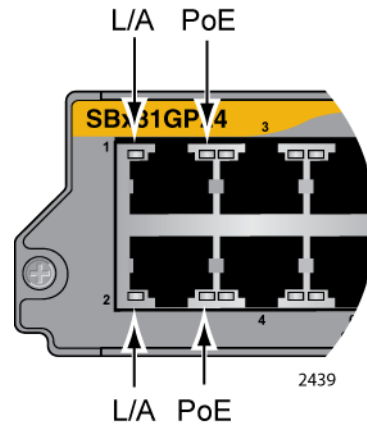

Figure 19. Port LEDs on the AT-SBx81GP24 PoE Line Card
**LEDs** Each port on the AT-SBx81GP24 PoE Line Card has two LEDs. The LEDs are shown in Figure 19 and described in Table 9.